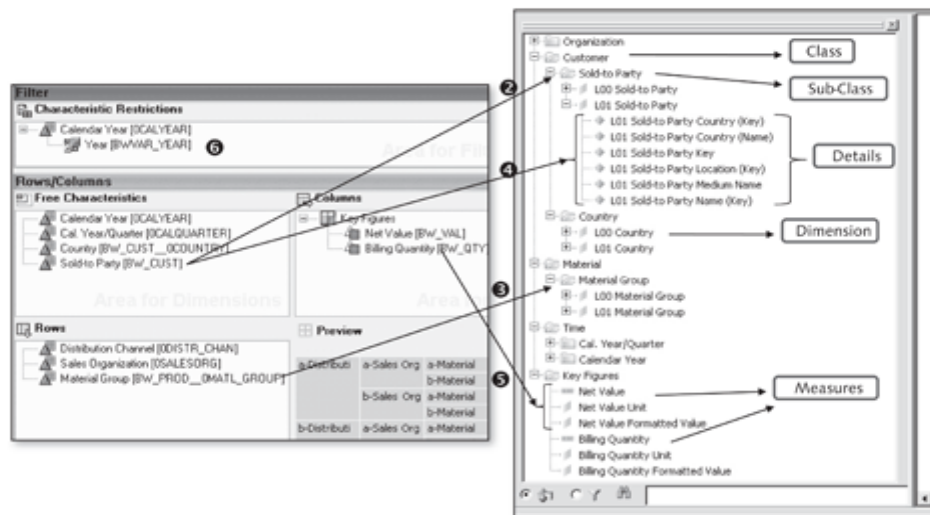

Figure 13.17 Mapping of BEx Query Elements with Generated Universe
- After the connection and universe parameters are defined correctly, create the universe. The Universe Designer automatically generates the universe by converting the metadata from the BEx query. Different query components are mapped to corresponding universe elements. The generated universe is displayed as shown in Figure 13.17. This figure also shows a mapping of BEx elements to the converted universe elements.
All of the dimensions involved in the query (based on characteristics included in the query definition) are converted as universe classes (❶ of Figure 13.17). A separate key figures class is also created for all of the key figures in the query.
There is a subclass created for each of the characteristics included in the query definition. The subclass contains dimension objects L00 and L01, which further include the detail objects (e.g., L00 Sold-to Party and L01 Sold-to Party) in ❷ of Figure 13.17. Here again, the nodes L00 and L01 correspond to the hierarchy on the characteristic. Level 00 (L00) contains all values for a characteristic and is useful only if the reporting has to happen on the unassigned members as well. To make the universe definition simpler, node L00 can be removed from the universe. Level L01 behaves similarly to a characteristic defined in the query.
Navigational attributes used in the BEx query are treated as characteristics and are converted as a dimension in the universe. In ❸ of Figure 13.17, material group is a navigational attribute of material.